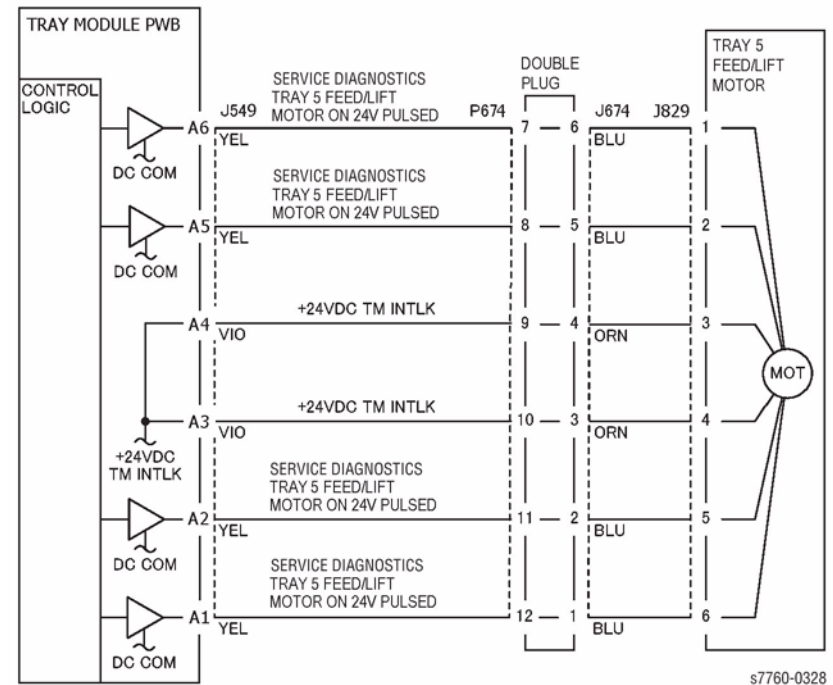
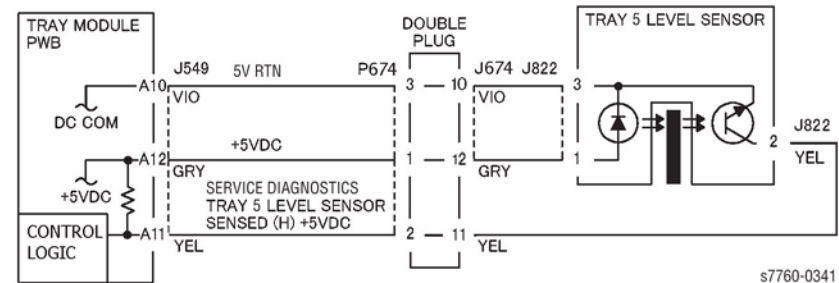

Figure 1 007-293 Tray 5 Lift/Feed Motor (TTM)
Figure 2 007-293 Tray 5 Level Sensor (TTM)
- Ensure that the connectors shown in the circuit diagrams (Figure 1, Figure 2) are securely connected and that the wires are not damaged.